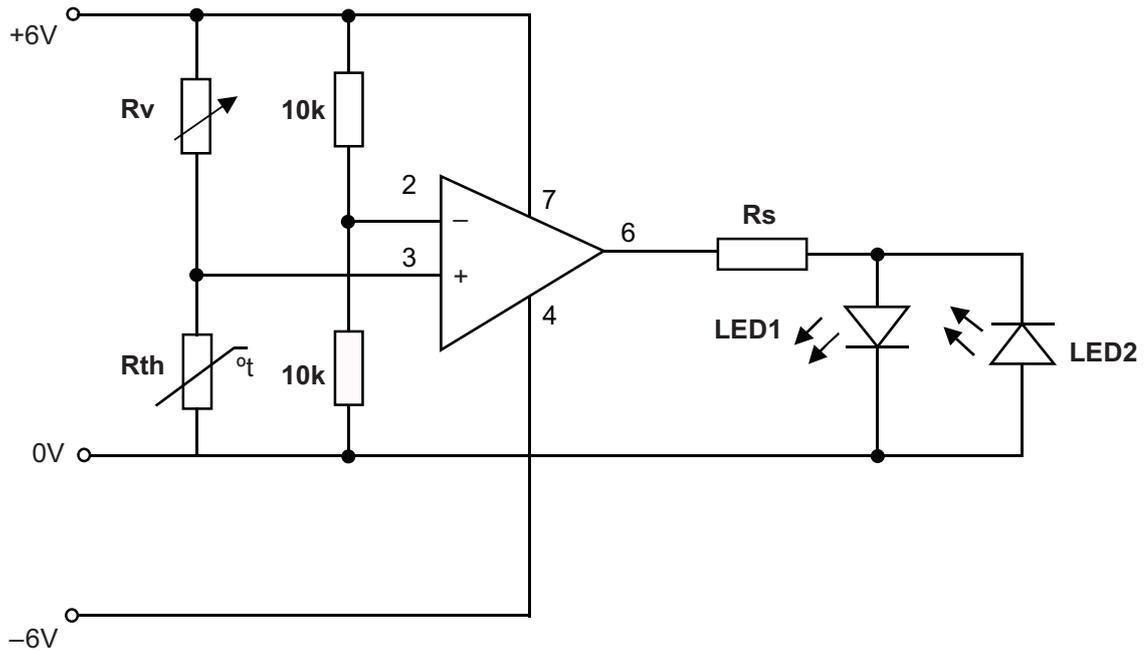

Fig. 10(a)
10 Fig. 10(a) shows a comparator circuit which is to be used as a frost warning system for a greenhouse.
- (a) (i) The circuit shown in Fig. 10(a) can be analysed in terms of input, control and output. Draw a systems block diagram for the circuit, inserting the names of the appropriate components in each of the blocks. [3]
- (ii) State whether the circuit shown in Fig. 10(a) is an on/off or continuous control system and briefly justify your answer. [2]
- (iii) Name component Rv and state its function in the circuit shown in Fig. 10(a). [2]